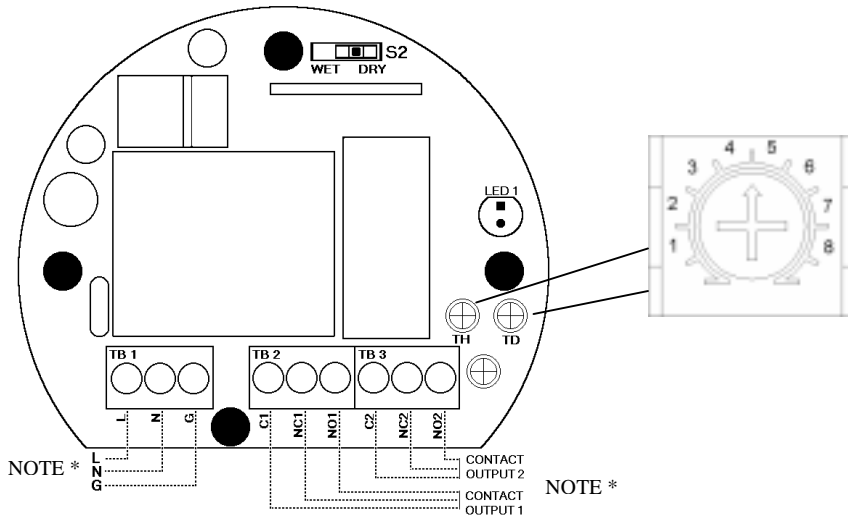

FIGURE 1
- 2) Connect wiring per FIGURE 1 using one of the following operating power options from model # found on housing.